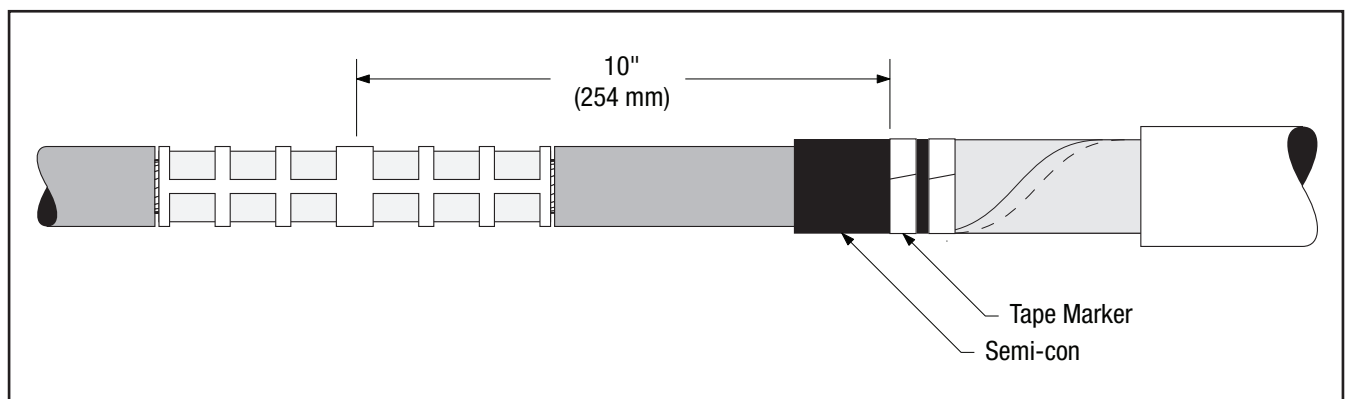

Figure 10
- 4.1 Apply a tape marker to semi-con insulation shield on cable which does not contain splice. Measure 10" (254 mm) from center of connector (*Figure 10*).